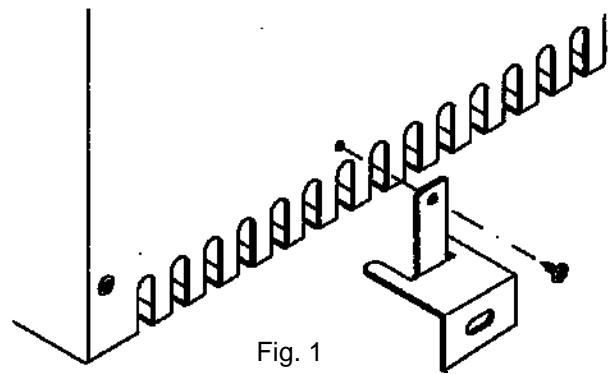

Fig. 1
- Fix the two square brackets to the back of the heater by using the two small screws (see Fig. 1).